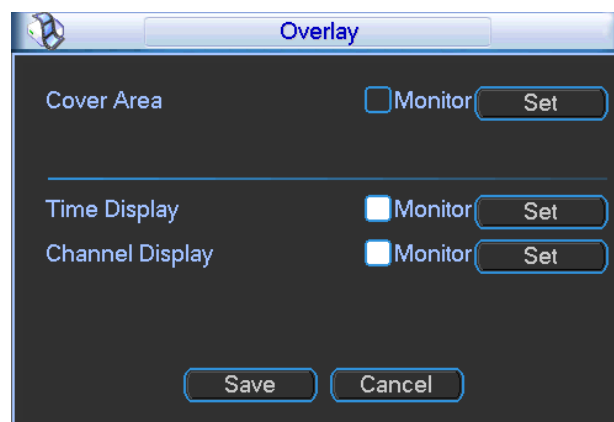

Figure 3-35
- Overlay: Click overlay button, you can see an interface is shown in Figure 3-35.